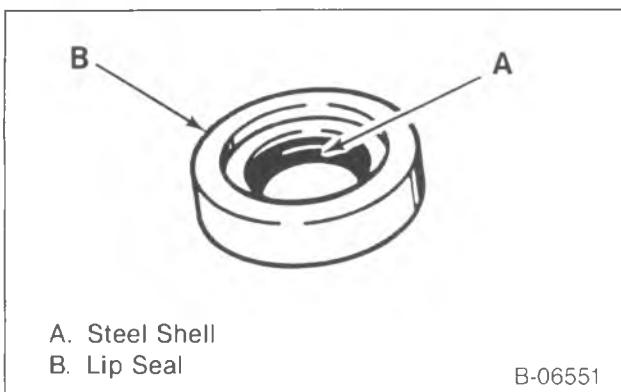

Figure 21—Compressor Shaft Seal Details
Replacement of the shaft seal assembly or the pressure relief valve will require the discharge of the vehicle's refrigerating system (figure 21). Other than clutch repair procedures, the same holds true for any disassembly of the compressor. To discharge the refrigerant, refer to the vehicle service manual.
4. Shaft seal retainer ring using J 5403 (figure 21).
- Shaft (38) and inside the compressor neck area.
5. Clutch plate and hub assembly (22).